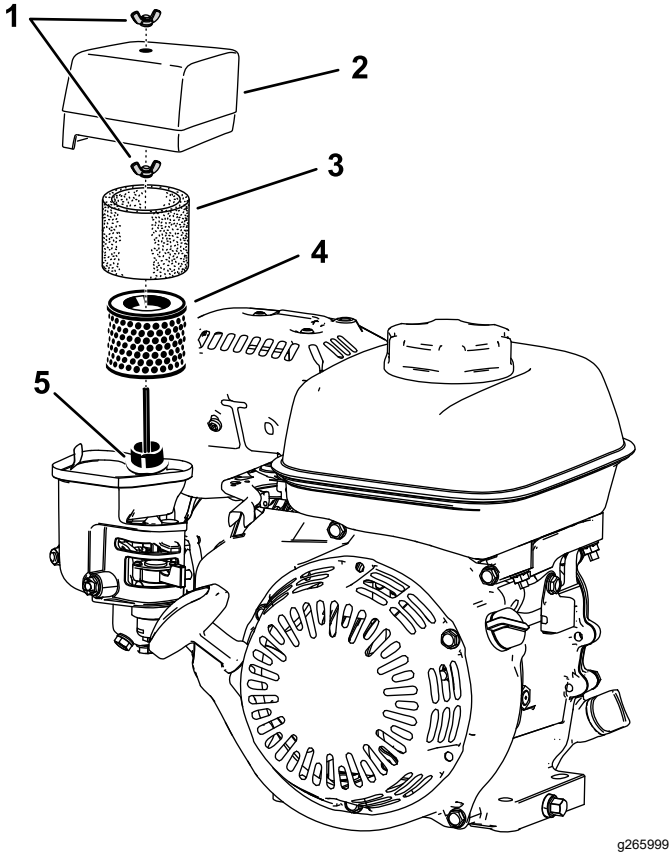

Figure 27
2. Remove the wingnut securing the air-cleaner cover (Figure 27).